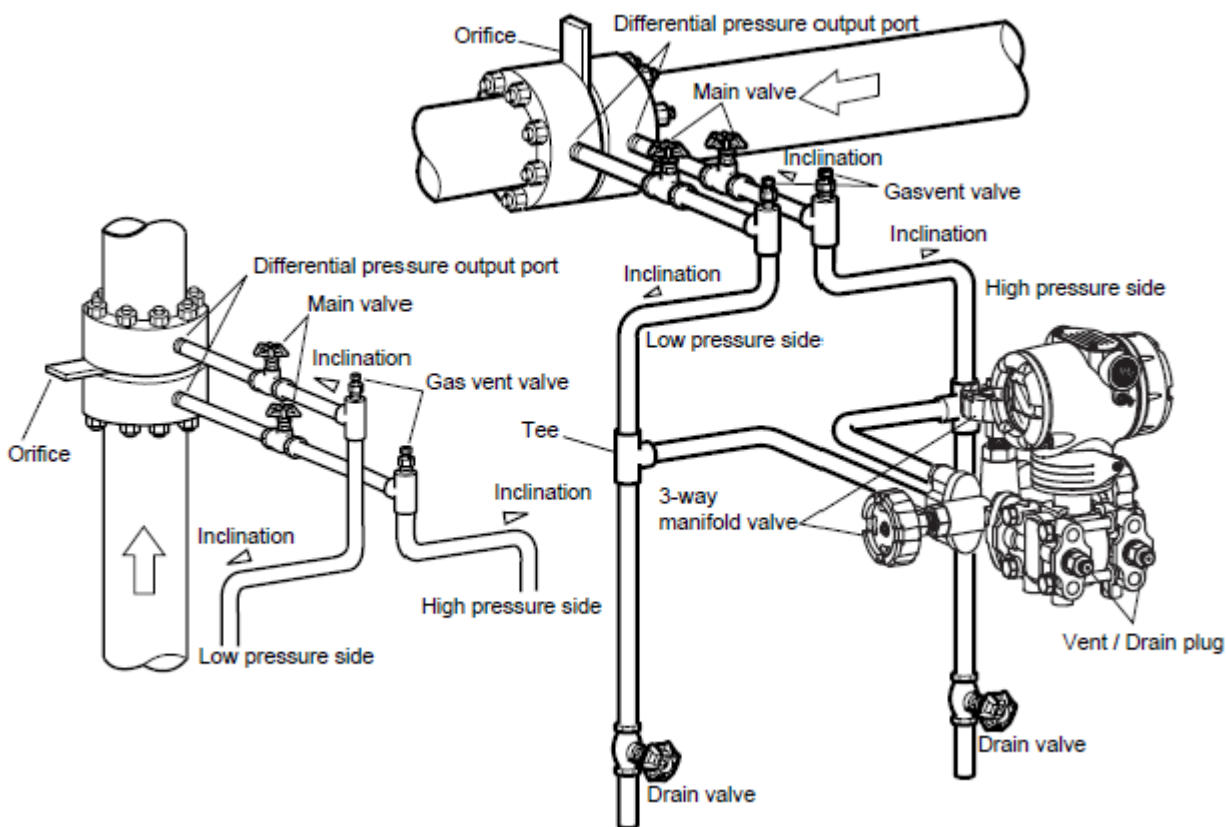

Figure 5. Liquid Flow Rate Measurement
Figure 5 shows a typical example for liquid Flow Rate Measurement. The differential pressure transmitter is located below the differential pressure output port of the process pipe. This minimizes the static head effect of the condensate.
- ♦ Incline the pipe as indicated in Figure 5 at the differential pressure output port.